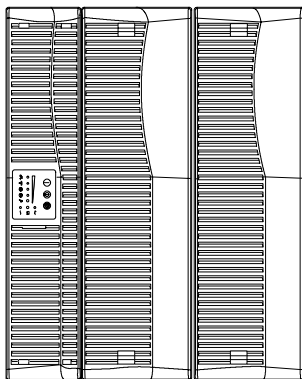

Figure 1. Tower UPS with an EBM
NOTE *The EBM(s) must be installed to the right of the UPS as shown in Figure 1.*
1. Carefully position the cabinets upright (see Figure 1).